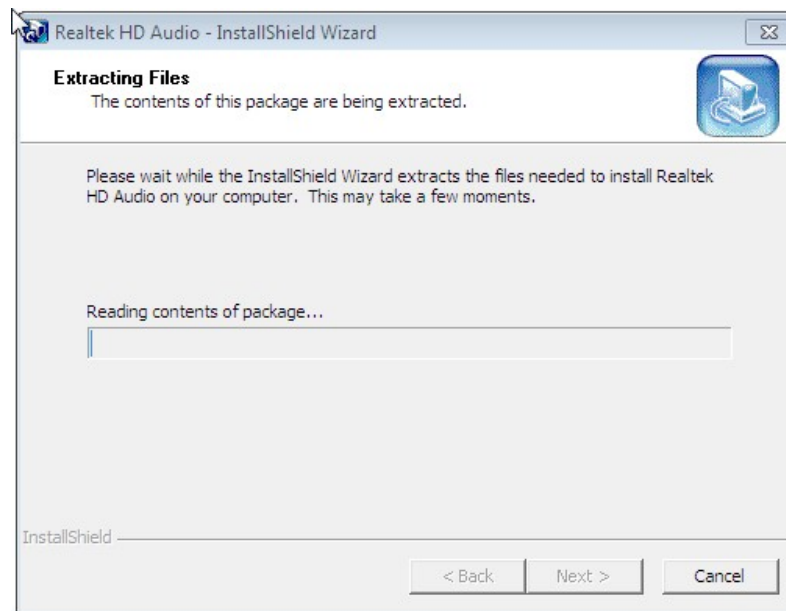

Figure 6-16: Audio Driver Installation File Extraction
Step 5: The installation files are extracted as shown in **Figure 6-16**.